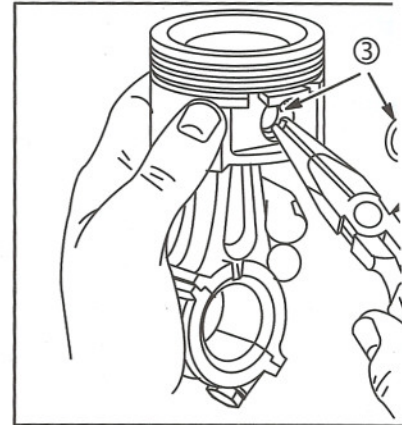

Fig. 3
1. Remove piston pin lock (3) with needle nose pliers (4), Fig. 3.
2. Slide piston pin (5) out from opposite side.